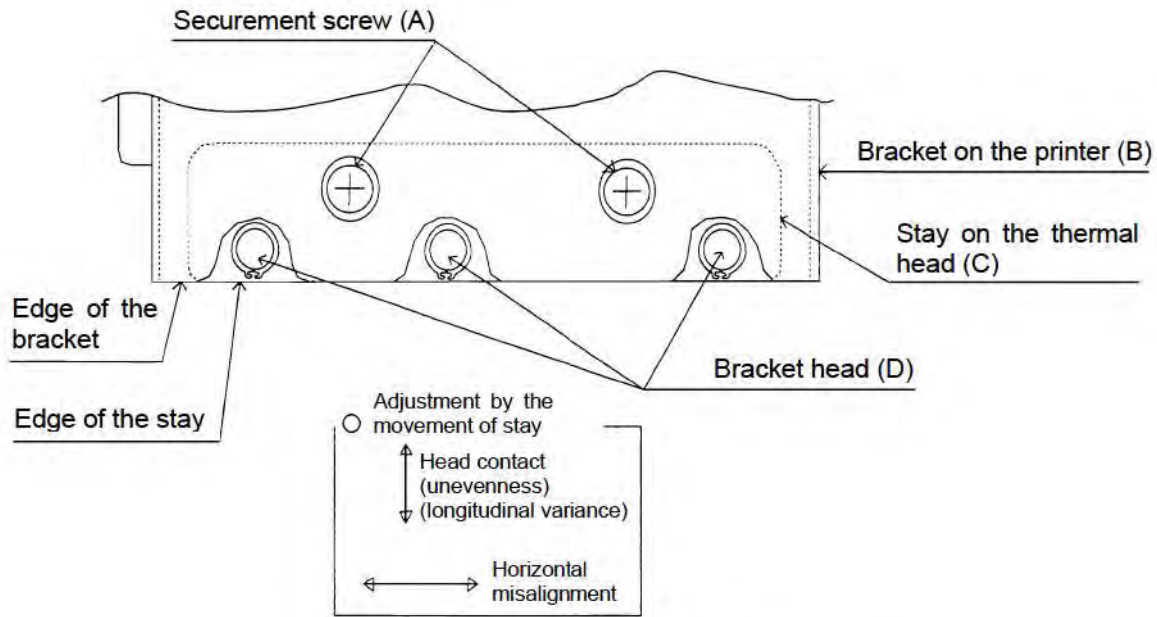

Fig. 7-1 Thermal Head Positioning
In reference to Fig. 7-1, loosen securement screws A, align the edge of the bracket on the printer front side (B) with the edge of the stay on the thermal head front side (C), partially tighten the securement screws (A), and then position the thermal head while running the test print operation.
In reference to Fig. 7-1, determine the position at which the print output is darkest by moving the securement screws (A) up or down and looking at the print output and then tighten the securement screws (A).
In reference to Fig. 7-1, loosen securement screws (A) and then adjust the securement screws so that the thermal head is parallel with the printer rollers on both the left and right sides when looking from directly above (center lines are overlapping).